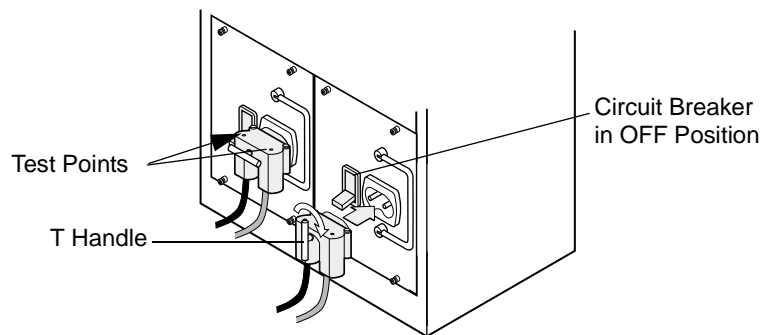

Figure 17-7. PDU Circuit Breaker Position
7. Use a voltmeter to check the voltage at the test points on the top of the power connector (see Figure 17-7) to ensure a nominal -48 volts DC source.